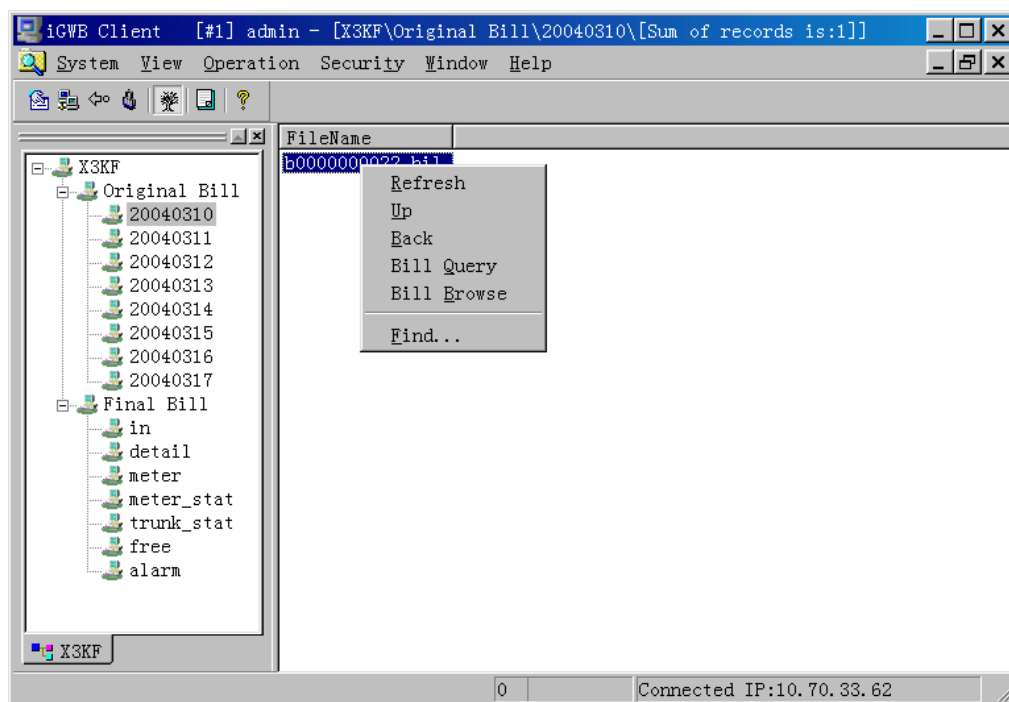

Figure 3-8 Main interface of CDR console
- 1) After you log in to the CDR console, the main interface as shown in Figure 3-8 is displayed.
The left pane shows the navigation tree of the CDR console. The navigation tree visually displays the CDR storage mode in the server. Under [Original Bill], the original CDRs are displayed according to date, and the corresponding CDR file is *.bil. Under [Final Bill], several types of final CDRs supported by the system are displayed, which are also called “channel”, and the corresponding CDR file is *.dat. See Figure 3-8. The options on the right-click menu are described as follows: